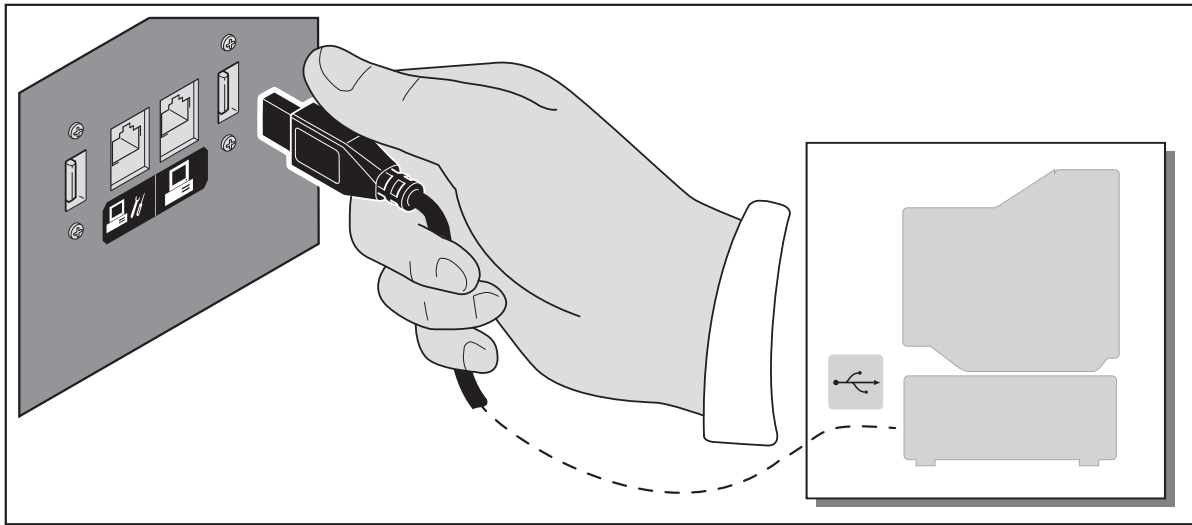

Figure 5-5
- Connect the USB interface cable to the dispenser USB port, marked with the symbol  (Figure 5-5).